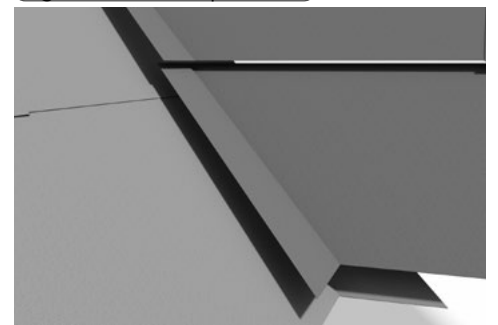

fig 8: Valley laps
8. Where valleys occur, the Danelaw LR150TT should be laid not less than 300mm beyond the centre line of the valley on each side (fig. 8). Where a continuous length of underlay is laid up the length of the valley, it should be a minimum of 600mm wide and the underlay from either side of the valley should be mitre cut to the appropriate line to suit the valley trough installation requirements.